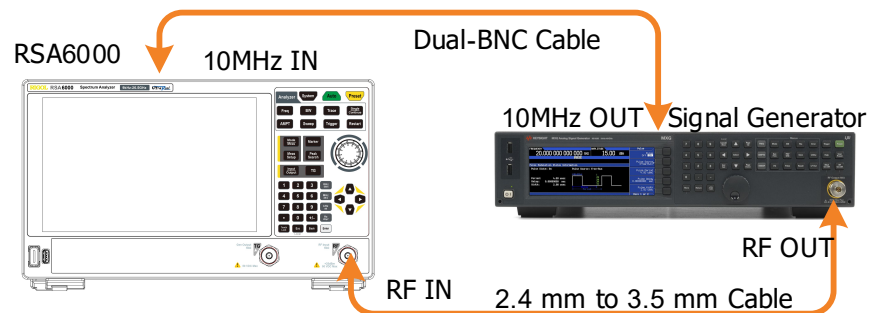

Figure 4.2 SSB Phase Noise Test Connection Diagram
2. Connect the output terminal of the signal generator with the RF input terminal of the spectrum analyzer, as shown in *Figure 4.2*.